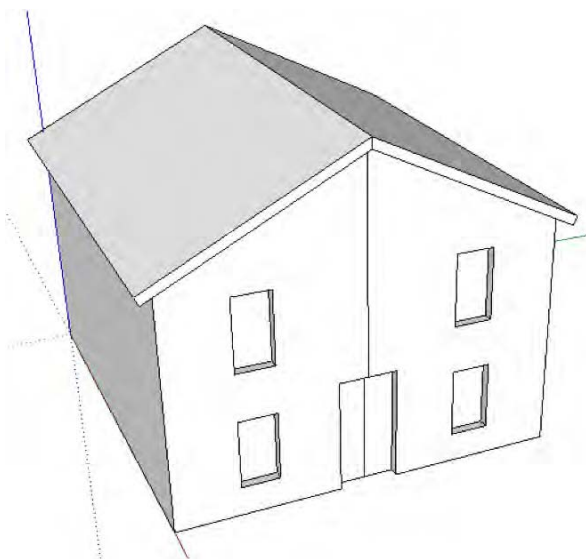

Figure 8-4. *Model after it had been flipped and put together*
5. Using the Move/Copy tool, drag the two halves together to join the two components (Figure 8-4).